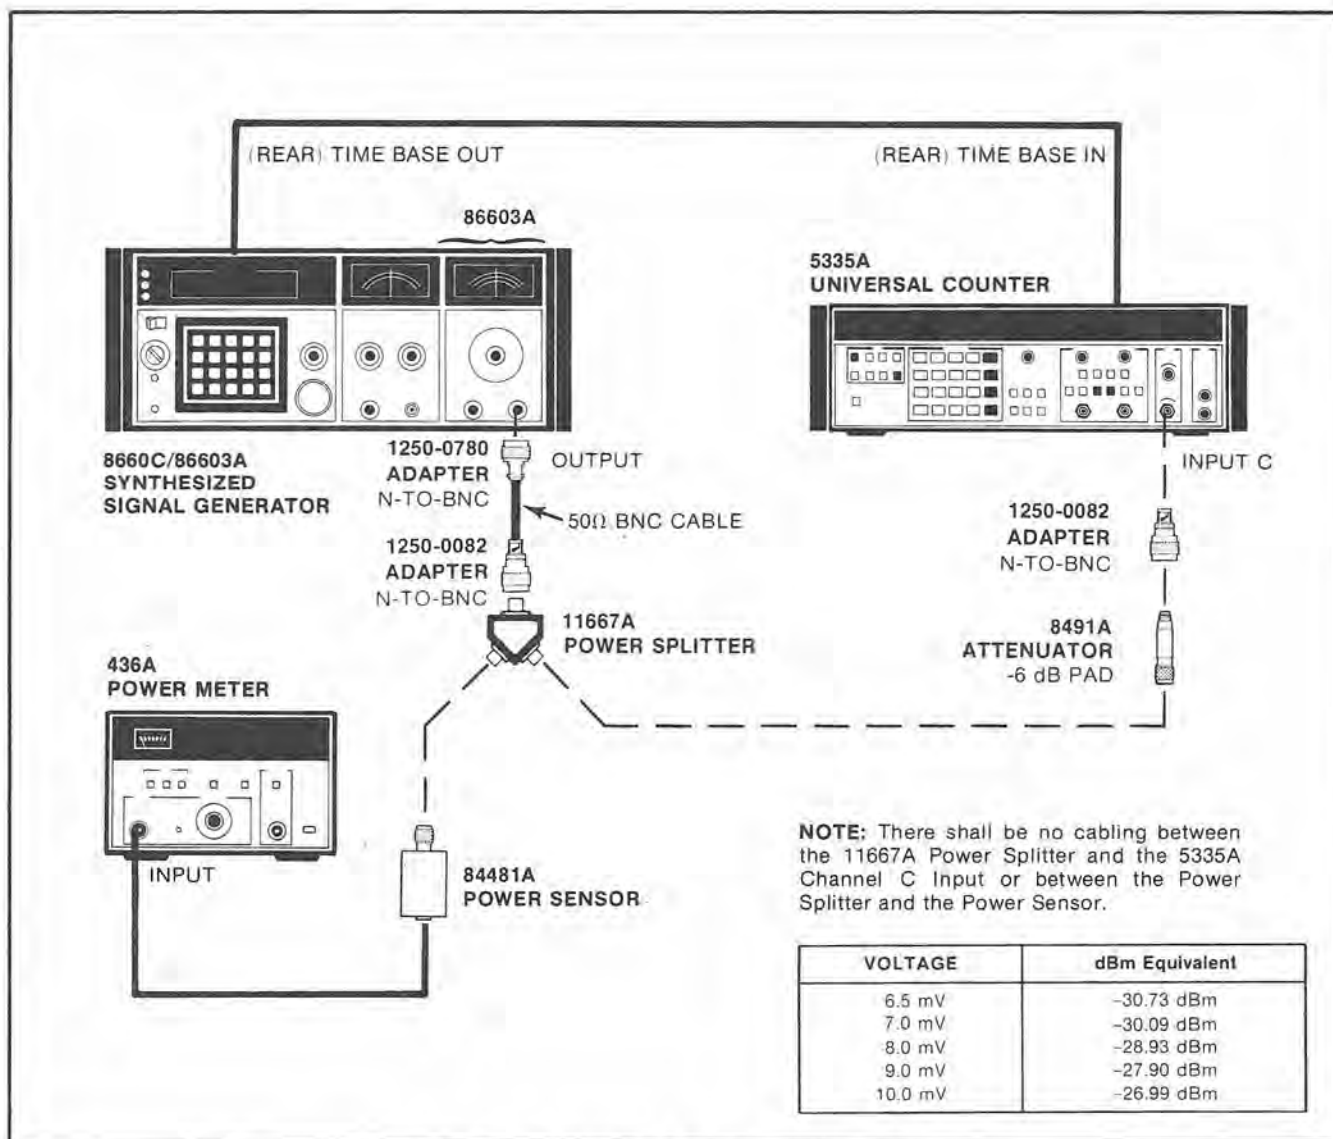

Figure 4-19. Channel C Test Set-Up (Option 030)
c. Connect the signal generator and the power meter to the 5335A INPUT C as shown in Figure 4-19.